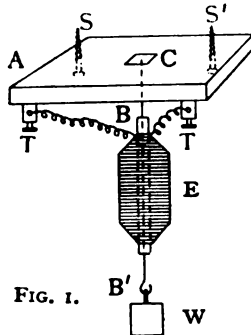
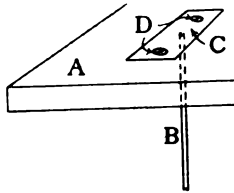
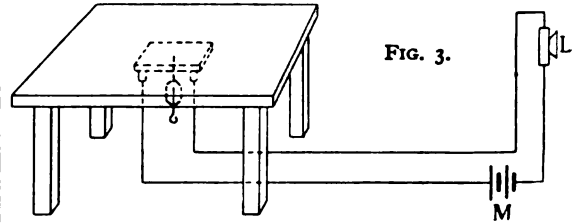

FIG. 1.
FIG. 2.
FIG. 3.
A, Fig. 1, is a small piece of wood about 5 ins. square, to the centre of which is attached a short piece of soft iron wire B B¹ (as used for the core of
small induction coils) about 4 ins. long, and bent round at B¹ to form a small hook. Fig. 2 shows how this wire (B) is attached to the wood. The end of the wire is soldered on to a small brass plate C, which is let in flush with the surface of the wood block A, and then screwed on firmly at D and C. S S¹, Fig. 1, are the two screws by means of which the block is attached to the underside of the table. E is a small coil of No. 24 B.W.G. silk or cotton-covered wire, wound as shown in figure, tapering at both ends. This small coil is wound round a short piece of quill 1½ ins. long, so that when in place on the iron wire B B¹ it is quite free to move up or down it (any very fine tube such as a piece of thin glass, or a piece of straw, will do in place of the quill). W is a lead weight weighing 2 or 3 ozs., which has a small eye on the top of it by means of which it is attached to B¹ (the correct weight can be found best by experiment).
been connected up, as shown in Fig. 1, and screwed on to the underside of the table, the apparatus is ready for use, and has only to be connected to a telephone transmitter of the ordinary microphone type and batteries, as shown in Fig. 3, where L is the transmitter and M represents a battery of two or three Leclanché or dry cells. The apparatus will work to a certain extent even if the weight W is removed, though not nearly so clearly.